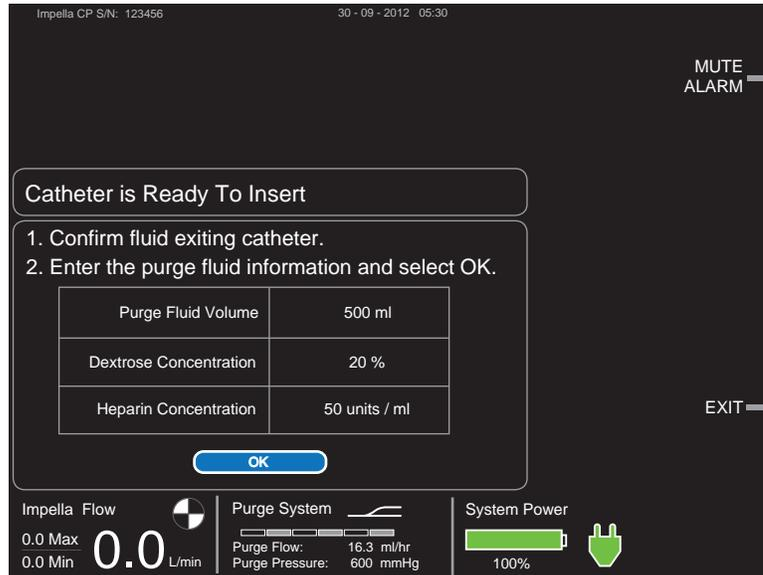

Figure 5.11 Entering Purge Fluid Information
1. After confirming that fluid is exiting the Impella® Catheter, enter the purge fluid information. The screen in Figure 5.11 shows a table of recommended default values for the purge fluid.